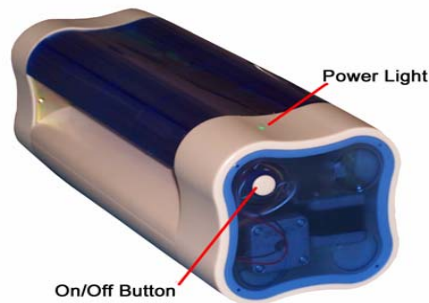

Figure 3
- 3 Use the power button to turn on the power to the cutter. See figure 3 .